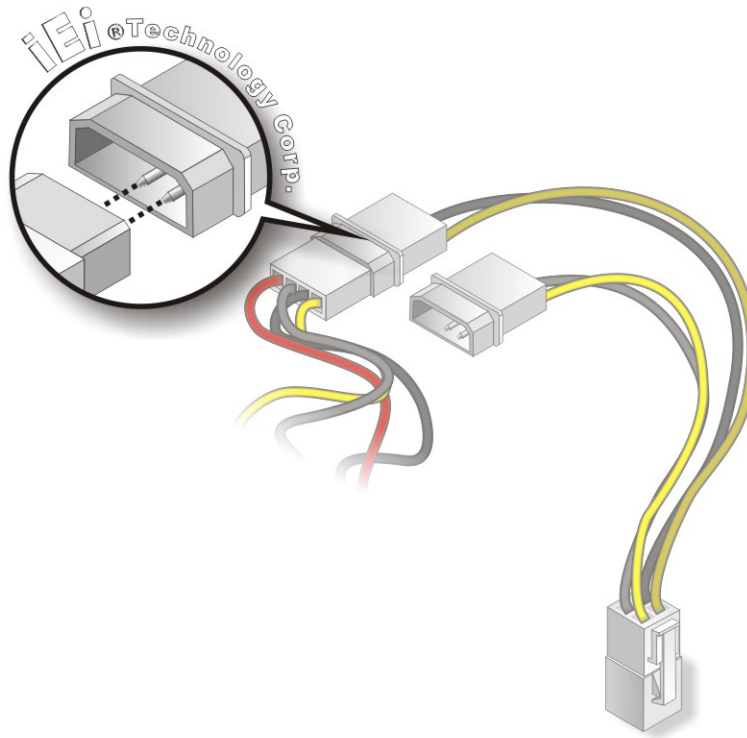

Figure 4-12: Connect Power Cable to Power Supply
Step 3: Connect Power Cable to Power Supply. Connect one of the 4-pin (1x4) Molex type power cable connectors to an AT power supply. See Figure 4-12.